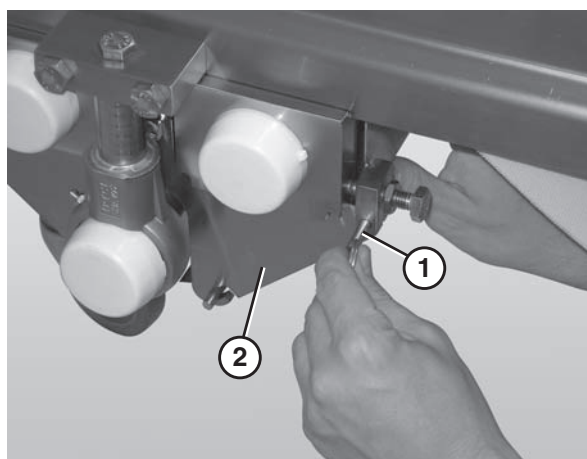

Figure 42
2. Remove the pull pins (**Figure 42, item 1**) from the center drive side plate (**Figure 42, item 2**).